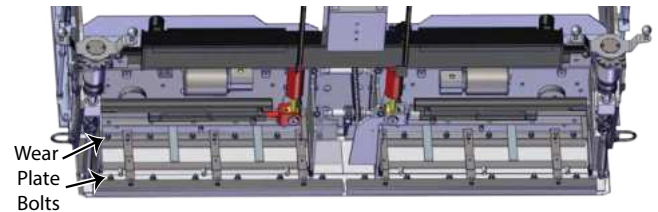

Figure 5-39. Wear Plate Bolts
6. Remove both rows of bolts holding the wear plate to the bottom of the screed. **(Figure 5-39)**